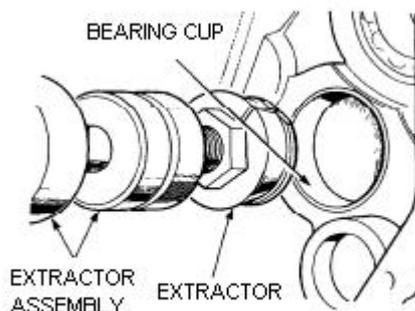

Figure 162 Removing the Countershaft Rear Bearing Cup
- ll. Using the extractor assembly (Table 3, Serial 42) and the extractor (Table 3, Serial 43) remove the countershaft rear bearing cup (Figure 162). Discard the bearing cup.